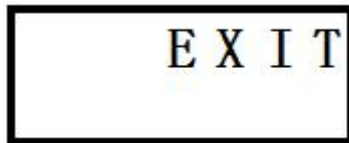
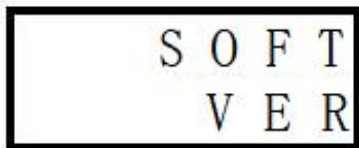
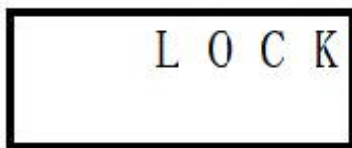

Fig.16
Fig.17
Fig.18
If this menu page doesn't brought out, press "Confirm" key once will invoke this menu and the display will appear as shown in Figure 16:
In the menu display in Figure 16, press the "Confirm" key once will exit the menu and return it to the disabled state.
- (1) "Left" key can be used to cycle downward through the menu tree. In the case shown in Figure 16, pressing the "Left" key once will display the screen shown in Figure 17; pressing it one more time will display the page shown in Figure 18.
- (2) "Right" key cycles through the menu items in the menu tree from top to bottom. In the case shown in Figure 16, one "Right" key press will display the information in Figure 19; pressing it one more time will display the page shown in Figure 20.
- ① Enter the "Confirm" key once (activate the menu mode), and the display appear as shown in Figure 16;
- ① Enter the "Confirm" key once (start menu), and the display appears as shown in Figure 16;
- ② Enter the "Left" key thirteen times or the "Right "key eight times (menu
Enter the "Left" key eight times or the "Right "key thirteen times (menu navigation), and the monitor will display as shown in Figure 16;
If the menu is not activated, pressing the Confirm key once will activate the menu, and the display will show the following as shown in Figure 16:
In the state shown in Figure 16, pressing the Confirm key once will exit the menu and return it to the inactive state.
be displayed as shown in Figure 18;